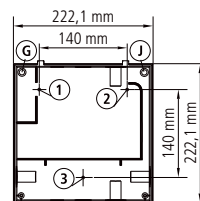
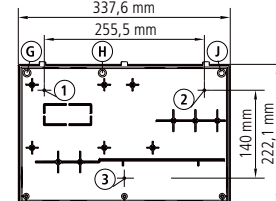

FIG. 3a
FIG. 3b
- Drill 3 holes for anchoring the housing at the centres indicated 1, 2, 3 (Fig. 3a or 3b).
- Finish drilling holes G, H, J with a 4 mm bit (Fig. 3a or Fig. 3b).
- Join the front with the housing, through the panel and tighten the 45 mm screws through holes D, E, F, G, H, J (Fig. 3a or Fig. 3b).